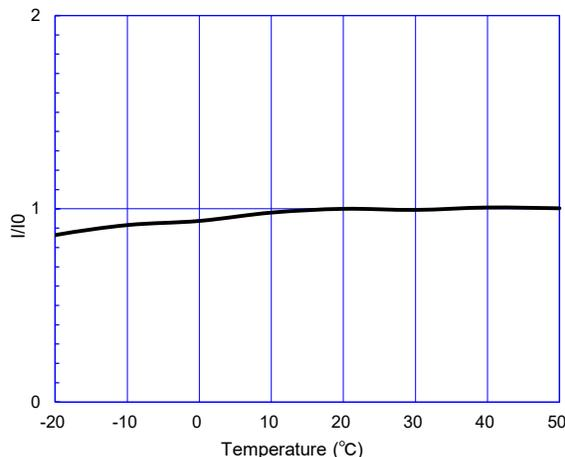

Fig. 7 - Temperature dependency (I0=sensor output current at 20°C)
Figure 7 shows the sensitivity change with temperature measured using the recommended basic measuring circuit. The Y-axis shows the ration of output current in 100ppm of H2S at various temperatures (I) to the output current in 100ppm of H2S at 20°C. The sensitivity gradually decreases as the temperature decreases, and the sensitivity slightly increases as the temperature increases. Therefore, the temperature dependency of hydrogen sulfide sensitivity of FECS50-100 can be compensated by a NTC thermistor.